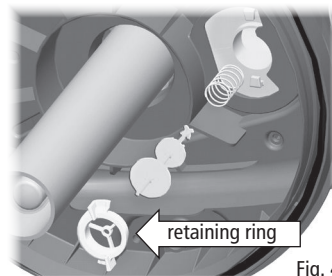

Fig. 4
7. You now have access to the Foam Filters (M). Remove all of them together by grasping and lifting the internal Foam Support Frame (N).
8. Free the Foam Filters (M) from the Foam Support Frame (N) and rinse with pond water or replace them as required.
9. Rinse the biological media located in the lower section of the Filter Case (Q) with pond water or replace as required. Pressure-Flo 1000/3000 UVC does not have a biological media chamber.
10. Clean the Filter Case (Q) with water, particularly around the top edge where the lid sealing O-ring (P) is seated.
11. If necessary clean the Cleaning Indicator (U) after disassembling it as follows (the Mode Selector Switch (V) must be set to the "Filtering Mode" position): 1) remove the retaining ring by rotating it counter-clockwise, 2) remove the indicator and its spring. Rinse all parts in water and reassemble them with care (Fig. 4 - Fig. 5).